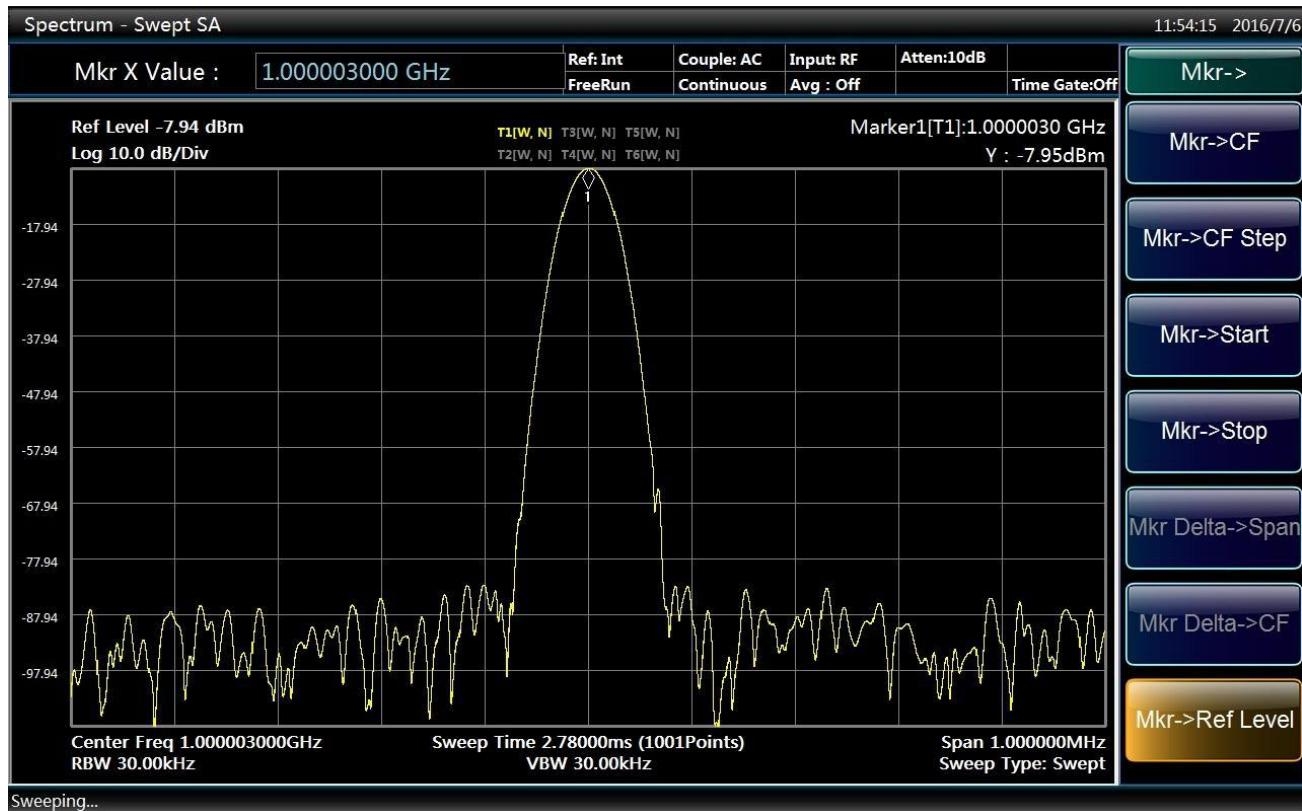

Fig. 4.21 Display interface of input signal with 1 MHz frequency span
- Press 【Marker →】 and [Marker → Ref Level] to obtain an interface as shown in Fig. 4.21.